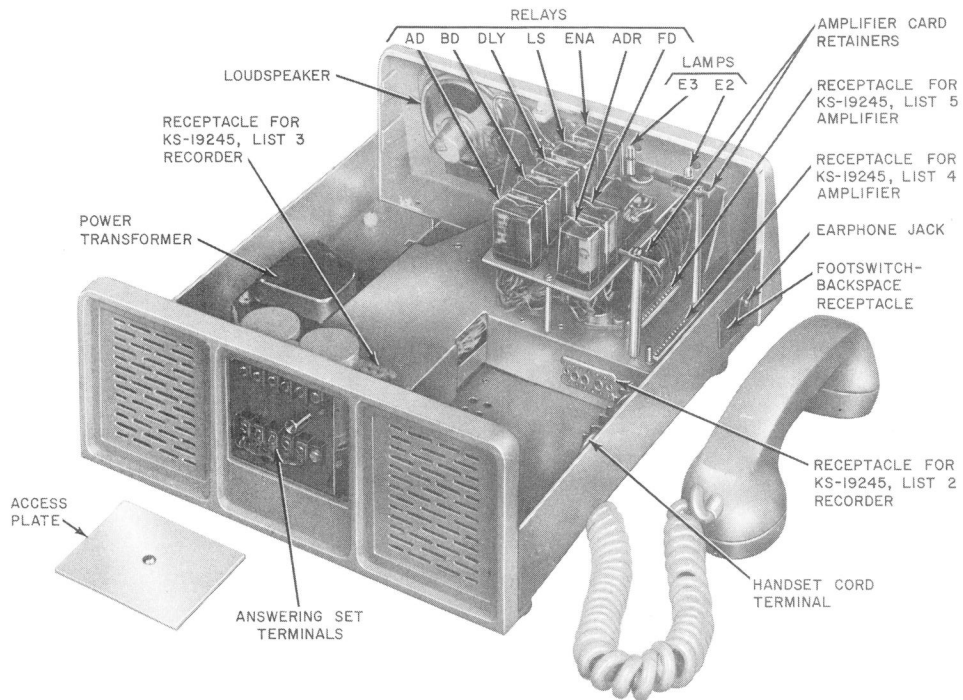

Fig. 4—KS-19245, List 1 Telephone Answering Set, Cover and Plug-In Components Removed
- (1) Remove top cover (2.01).
- (2) Remove ENA relay (3.04).
- (3) Pull out and hold spring clip on side of lamp socket and remove lamp E3 (Fig. 4).
- (4) Replace lamp E3, ENA relay and top cover.⚡
- (3) Plug new recorder into the plug-in receptacle (Fig. 4).
- (4) Replace and tighten the three retaining screws.
- (5) Replace outer cover and tighten four retaining screws.
- (5) Firmly grasp chassis of List 3 recorder and carefully withdraw until plug-in receptacle is disengaged (Fig. 4).
- (7) Plug new recorder into the plug-in receptacle (Fig. 4).
- (8) Replace and tighten the three retaining screws.
- (9) Replace List 6 cartridge (6.02).
- (10) Replace side and top covers.
- (1) Remove top cover of answering set (2.01).
- (2) Loosen retaining screws of the circuit board retainers.
- (3) Remove amplifier from its plug-in receptacle.
- (4) Plug new amplifier into plug-in receptacle (Fig. 4) and tighten screw of circuit board retainers.
- (5) Replace top cover.
3.04 Replacement of AD, BD, DLY, ENA, ED, LS, or ADR relays (Fig. 4):
- (4) Plug new relay into the plug-in socket (Fig. 4).
- (5) Engage wire spring retainer.
- (6) Replace top cover.
- (2) Remove KS-19245, List 3 recorder (3.02).
- (3) Unsolder speaker leads.
- (4) Remove four nuts and withdraw speaker (Fig. 4).
- (5) Install new speaker and tighten nuts.
- (6) Solder speaker leads.
- (7) Replace List 3 recorder.
- (8) Replace top cover.